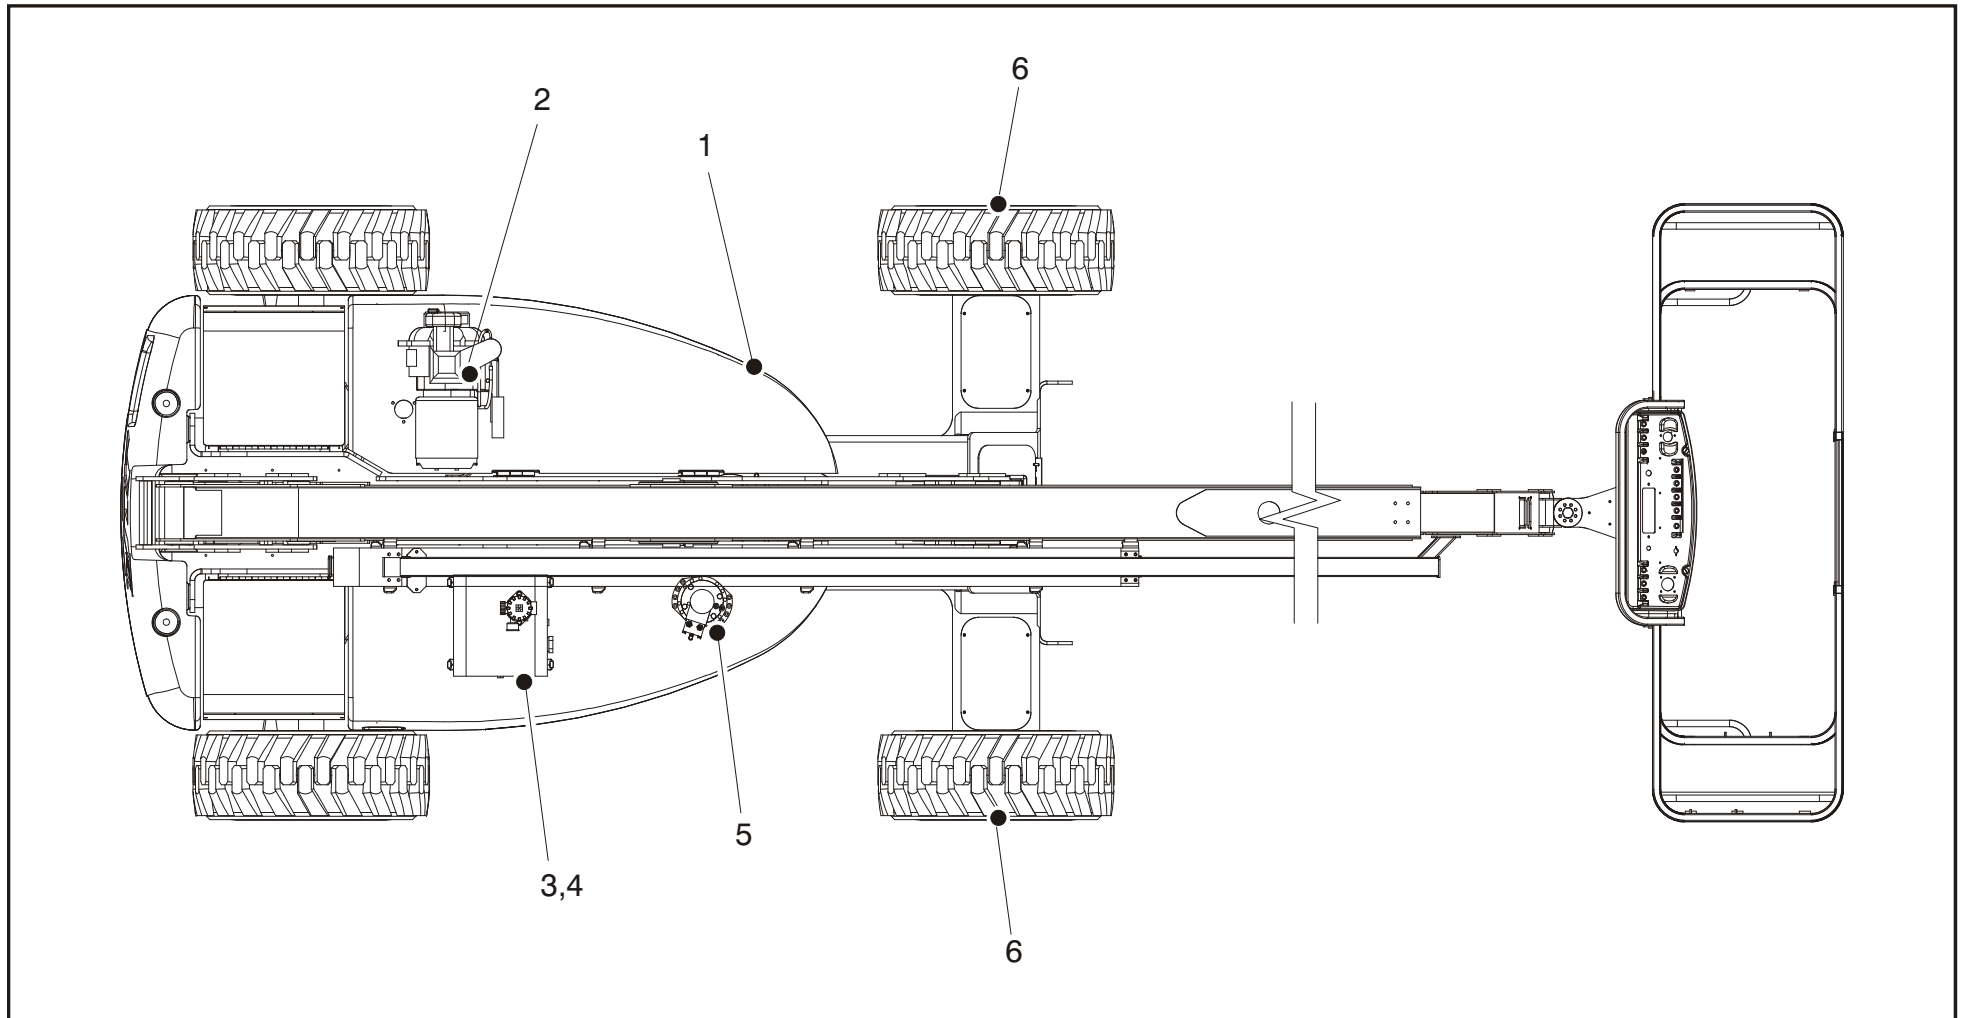

Figure 6-2. Operator Maintenance and Lubrication Diagram
**NOTE:** The following numbers correspond to those in Figure 6-2., Operator Maintenance and Lubrication Diagram.